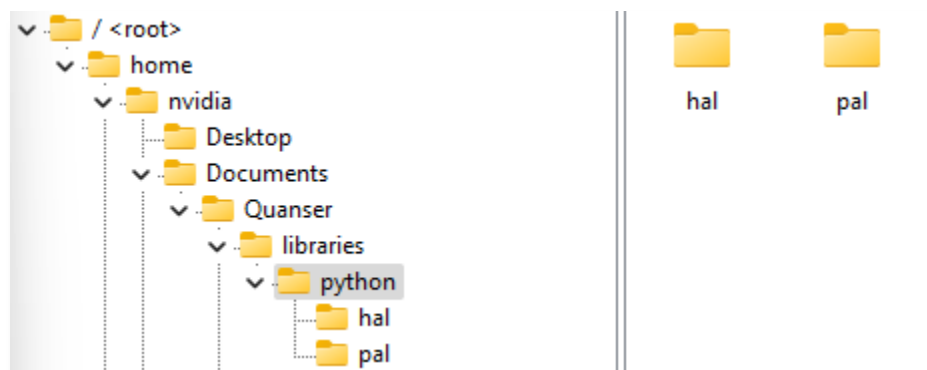

Figure 2. 'hal' and 'pal' folder in correct directory
- b. navigate to "~\Documents\Quanser\libraries\python" on the QBot Platform as shown in Figure 2, create these directories if they don't exist. Copy over the "hal" and "pal" folder from your local Windows machine, replacing existing files on QBot.